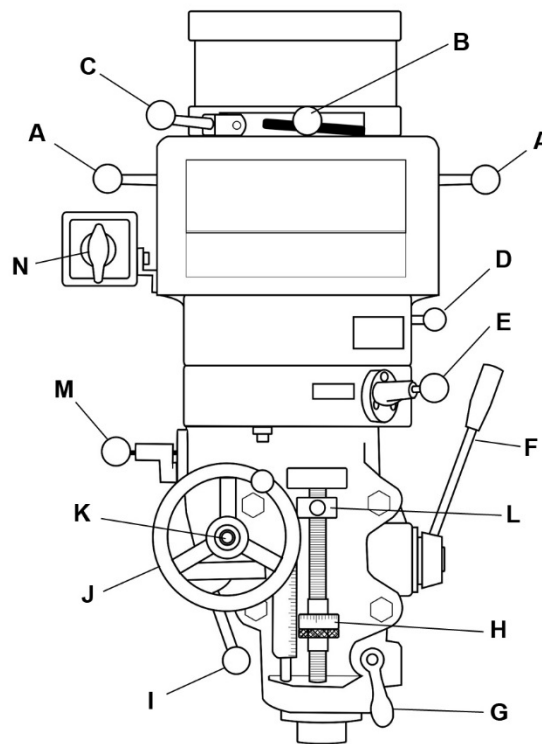

Figure 5: controls
Refer to Figure 5:
- A. **Motor Lock (Belt Tension) Levers (A, Figure 5)** – Slide levers to loosen motor mounting; shift motor to release tension on belts and reposition belts for different speed range.
- B. **Speed Range Selector (B)** – Mill is in high speed range when selector is in front position (facing operator). Push selector to the side to shift into low speed range. Rotate spindle to assist engagement, by either turning spindle nose by hand or turning drawbar knob with a wrench, provided drawbar is pulled up tightly.